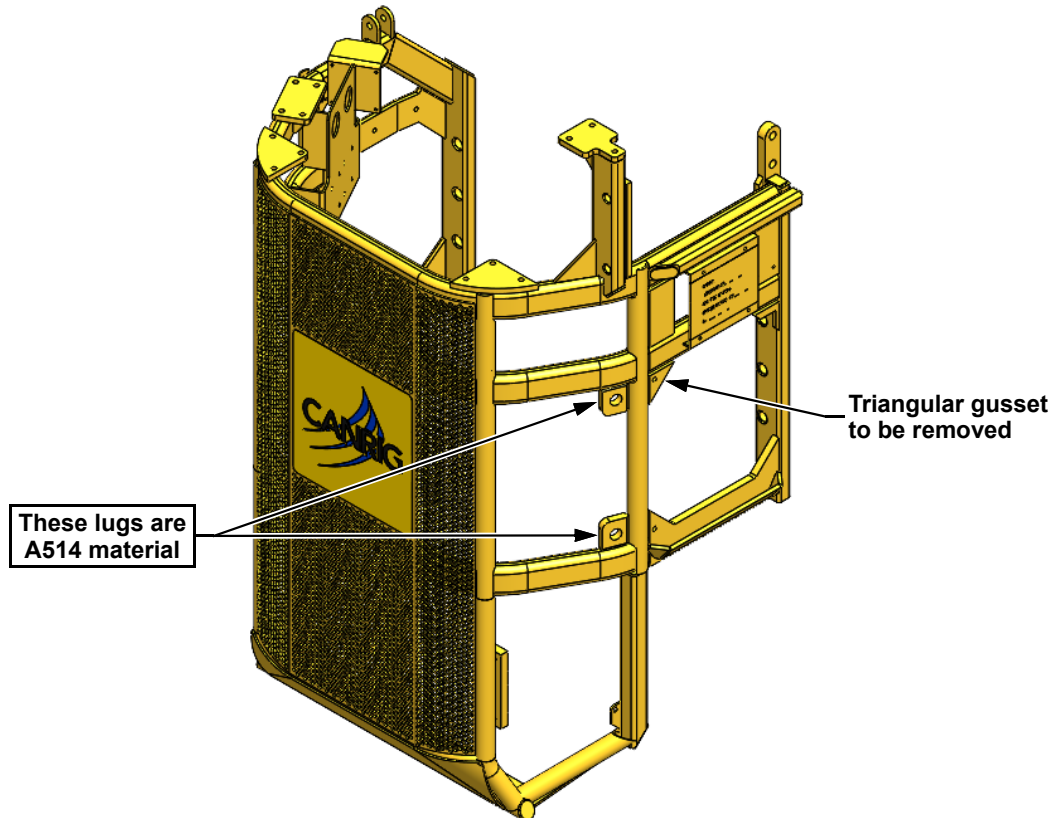

Figure 8: Triangular gusset to be removed.
1. Remove existing 4" x 4" x 1/2" triangular gusset (See Figure 8) on the top ODS.